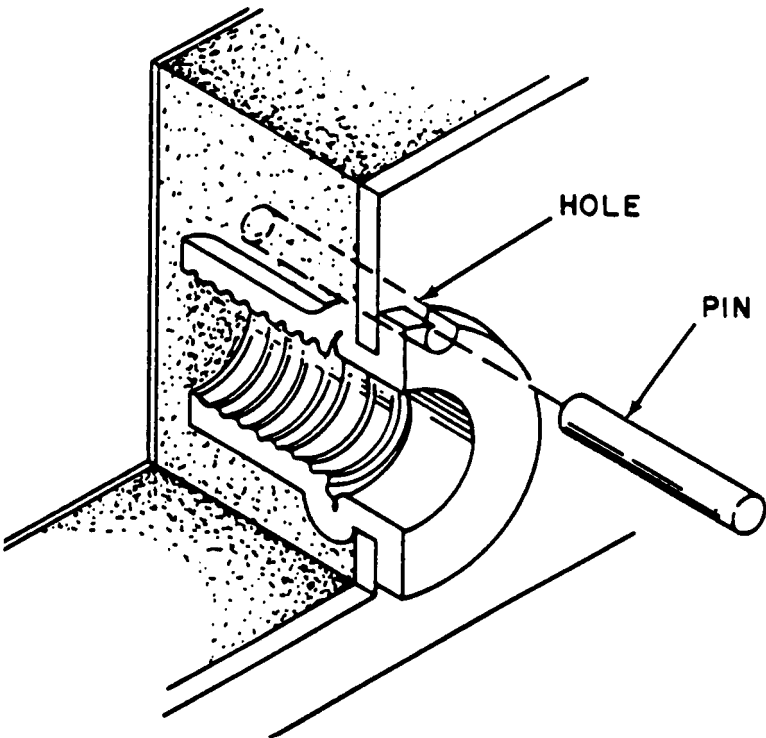

Figure 3-11. Repair of Turning Rivnut
(3) *Repair.* (Figure 3-11) When excessive torque is applied on screws attached on rivnuts, it may cause a rivnut to turn (spin). Table 3-4 provide the maximum torque requirement for hardware to prevent rivnut turning. To correct a turning rivnut, proceed as follows:
(a) Drill a .062 (+.003, -.001) diameter hole by 1.00 inch long on the stem of the turning rivnut as shown in Figure 3-11.